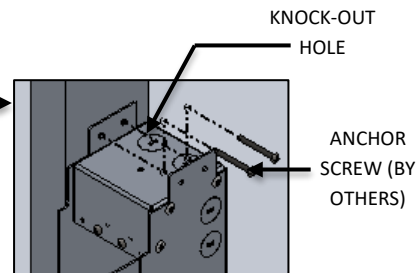

FIG. 10- DETAIL SHOWING KNOCK-OUT HOLE AND SCREWS
5. Remove the appropriate knock out for desired wire entrance location as shown in FIG. 10.